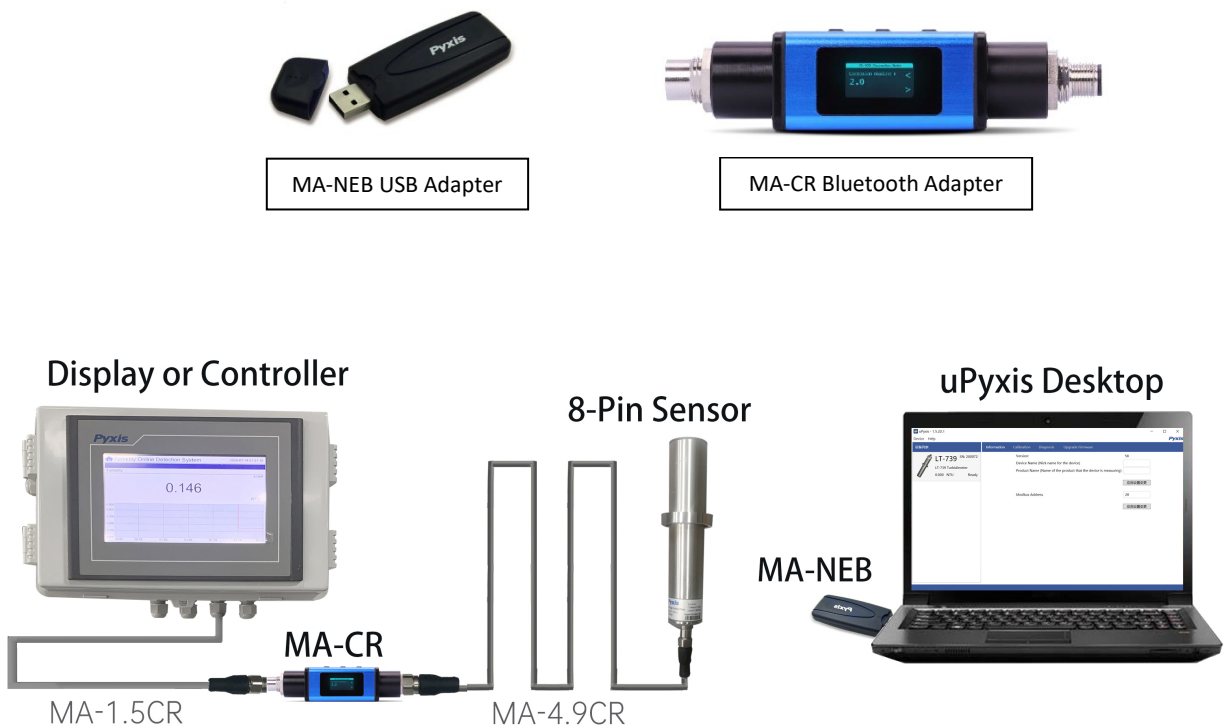

Figure 13. Connect the ST-765SS Series sensor wirelessly to a computer via MA-CR Bluetooth and MA-NEB USB adapters
3. Select Connect via USB-Bluetooth *Figure 13*.